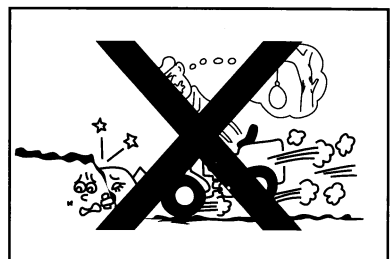

Figure1-69
- Dashing with high speed is equal to suicide. Dashing not only can damage the loader but also can injure the operator. Never try doing it. (Figure 1-69)